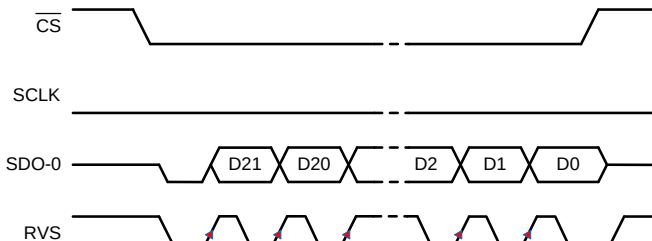

**Figure 74. SRC-INT-SS: SRC, INTCLK, Single SDO, SDR**
| SRC-INT-SS | INTCLK (3)     | Single    | SDR              |                                      | 43h      | 9                                  | <a href="#">Figure 74</a> |